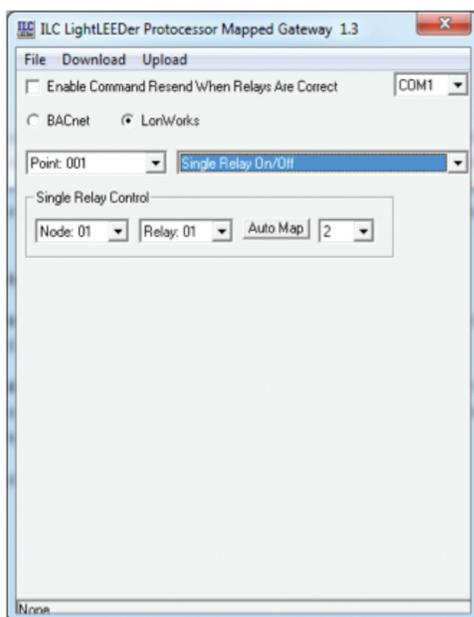

Figure 2.1 Programming a point to control a relay
- **Setting the Protocol:** From the opening screen click on either BACnet or LonWorks to match the hardware installed in the lighting system as shown in figure 2.1
From the opening screen of the software, select Point 001 or the next available point from the pull down menu. Select “Single Relay On/Off” or “Single Relay On/Timer Off” option from the pull-down menu as shown in figure 2.1 and 2.2. Next, select the Node and Relay where the desired relay resides. This screen also offers an Auto Map feature which can streamline programming. From the pull down menu to the right of the Auto Map button, select the number of relays to map in succession and then press the Auto Map button.